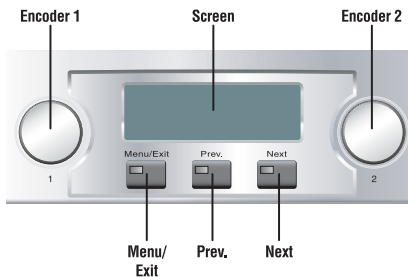

Figure 2.11
1. Be sure that no cables are connected to the amplifier. Turn on the front-panel power switch. The LCD Control Screen will light up (Figure 2.11).